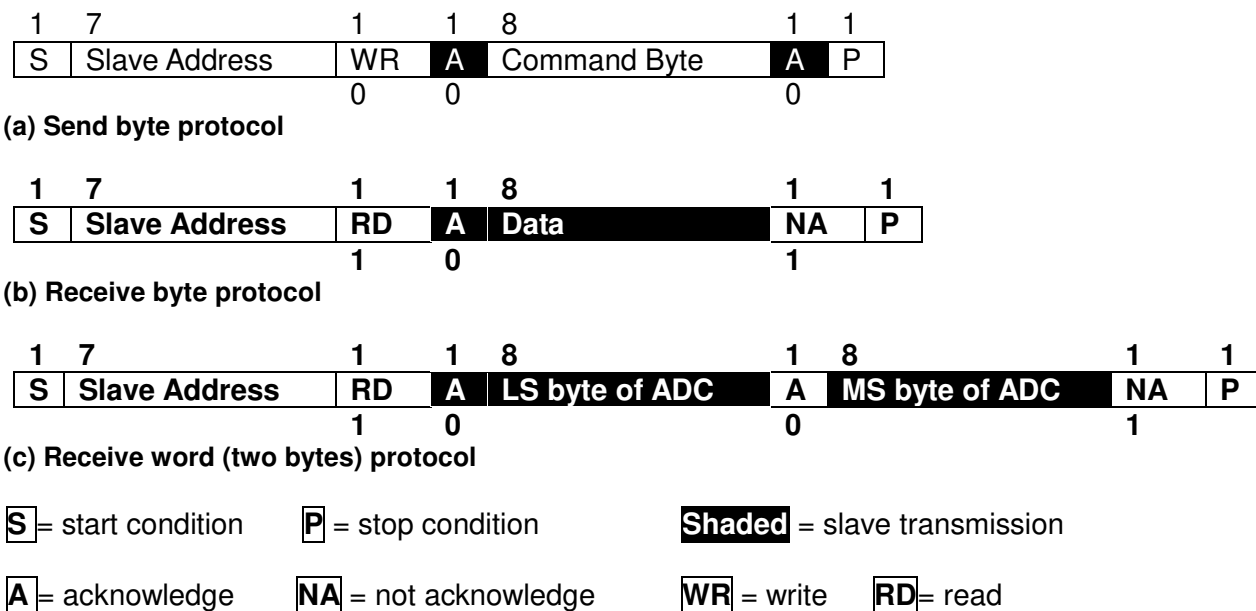

Figure 13. Communication Protocol
The Send Byte protocol allows single byte of data to be written to the device (see Figure 13-a). The written byte is called the COMMAND byte. The Receive Byte protocol allows one-byte data to be read from the device (see Figure 13-b). Two-byte data can be read by following the Receive Word Protocol shown in Figure 13-c. In Figure 13, the clear area represents data sent by the host (master) and the shaded area represents data returned by the ambient light sensor (slave device).
- (1). After being powered on, the device will initially be in the shut-down mode (default setting).
- (2). To operate the device, issue an Send Byte protocol (see Figure 13-a) with the device address 0x39 followed by a command byte of 0x0C to activate the ambient light sensor and put the device into "continuous operation mode".
- (3). To read the ADC conversion result, issue an Receive Word protocol (see Figure 13-c) with the device address 0x39 followed by two-byte reading procedures.
- (4). If a conversion has not been completed since being activated, the valid bit (D[15]) will be 0 to indicate that the data is not valid. If there is a valid conversion result available, the valid bit (D[15]) will be set logic high, and the remaining 15 bits will represent valid data from the ADC register.
- (5). Data may be read repeatedly from the ADC register, and although it will remain valid, the ADC register will not be updated until a new conversion completes.
- (2). To operate the device, issue an Send Byte protocol (see Figure 13-a) with the device address 0x39 followed by a command byte of 0x04 to activate the ambient light sensor and put the device into "one time integration mode".
- (3). I²C master sends a "start integration command" to the slave device by issuing Send Byte protocol with the device address 0x39 followed by a command byte of binary code (1xxx_xxxx).
- (4). After a period of user defined integration time, I²C master sends a "stop integration command" to the slave device by issuing Send Byte protocol with the device address 0x39 followed by a command byte of 0x30.
- (5). To read the ADC conversion result, issue an Receive Word protocol (see Figure 13-c) with the device address 0x39 followed by two-byte reading procedures.
- (6). If the stop integration command is not received by the device, the valid bit (D [15]) will be "0" to indicate that the data is not valid. If there is a valid conversion result available, the valid bit (D [15]) will be set logic high, and the remaining 15 bits will represent valid data from the ADC register.
- (7). Data may be read repeatedly from the ADC register, and although it will remain valid, the ADC register will not be updated until a new complete integration cycle has been carried out.